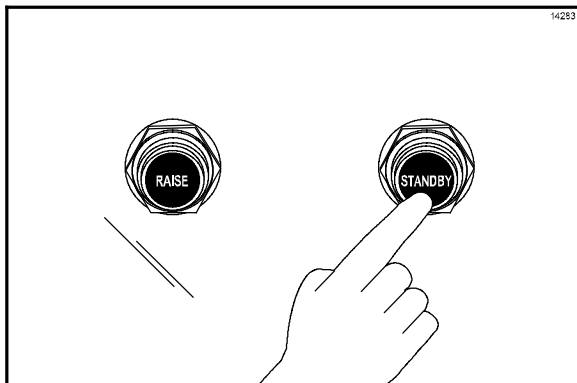

Figure 93
19. Press the black STANDBY button to lower the center platen. (See Figure 93.)